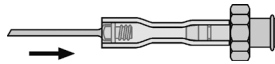

Fig. 4
- Attach the cleaning adapter as shown in fig. 4.